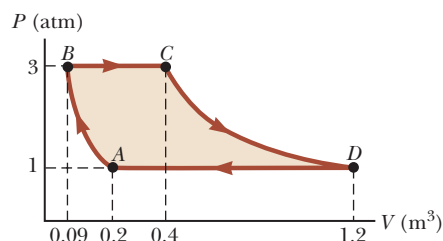

Figure P20.34
34. A sample of an ideal gas goes through the process shown in Figure P20.34. From  $A$  to  $B$ , the process is adiabatic; from  $B$  to  $C$ , it is isobaric with  $345 \text{ kJ}$  of energy entering the system by heat; from  $C$  to  $D$ , the process is isothermal; and from  $D$  to  $A$ , it is isobaric with  $371 \text{ kJ}$  of energy leaving the system by heat. Determine the difference in internal energy  $E_{\text{int},B} - E_{\text{int},A}$ .